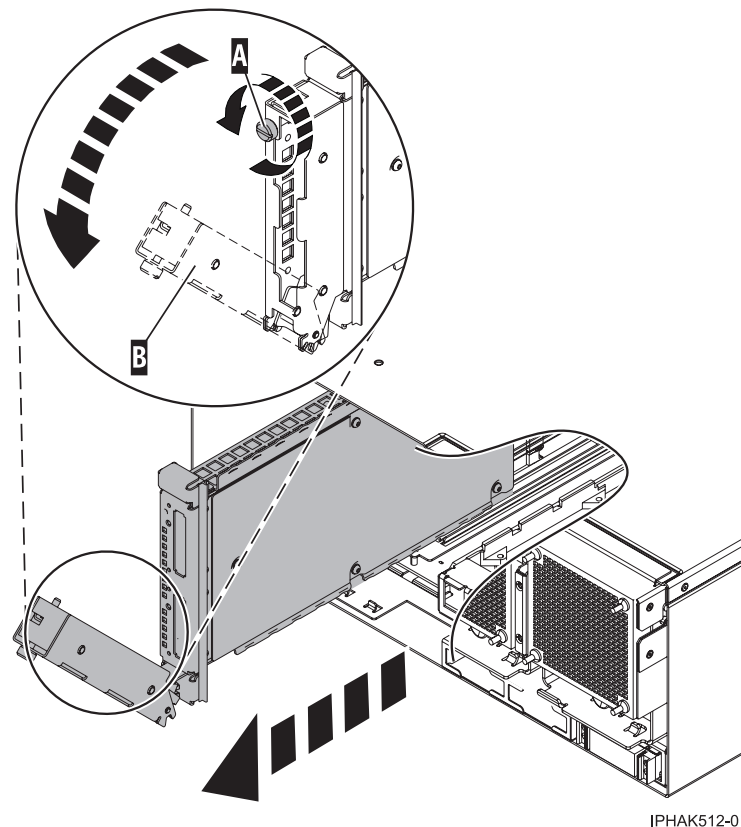

Figure 15. Removal of the adapter
7. Turn the thumbscrew **(A)**, shown in Figure 15, until the adapter is loose.